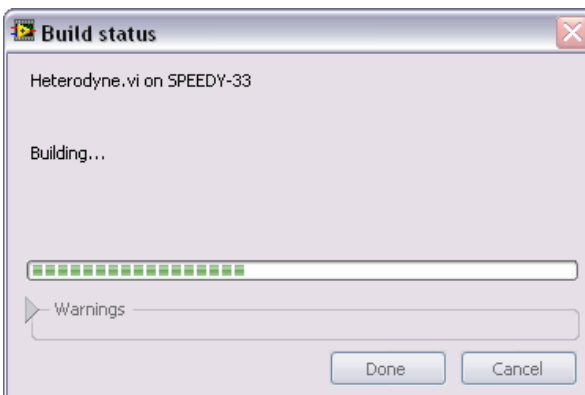

Figure 6. Building the DSP VI into a DSP Application
3. Click the **Run** button, shown at left, to build, download, and run the DSP application on the SPEEDY-33 target. When you click the **Run** button, the **Build status** dialog box, shown in Figure 6, appears and displays the progress of the building and downloading of the DSP application on the SPEEDY-33 target.